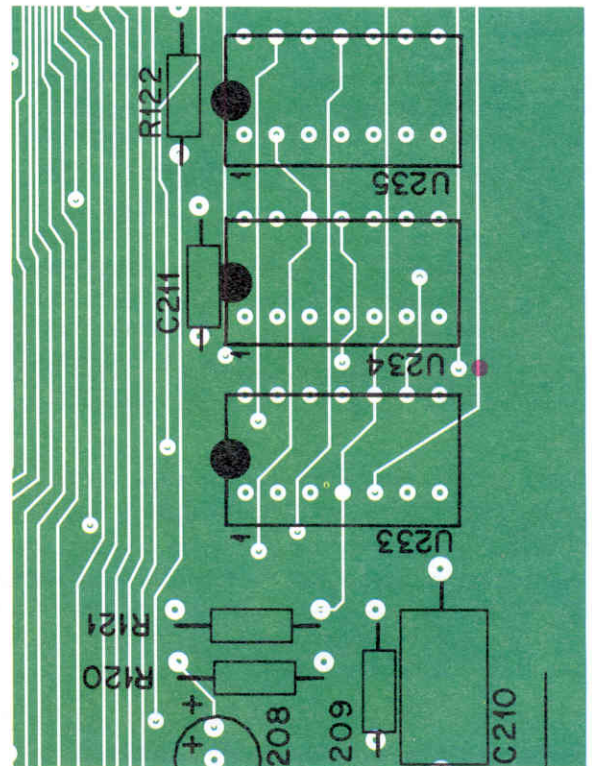

Figure 4. Component side trace cut near U233.
- (V) Position the board with the component side up and the S-100 connectors away from you.
- (V) Cut the trace coming from U233 pin 5. See Figure 4.
- (V) Position the board with the solder side up.
- (V) Jumper U233 pin 1 to U234 pin 1.
- (V) Jumper U233 pin 3 to U234 pin 3.
- (V) Jumper U233 pin 4 to U234 pin 4.
- (V) Jumper U233 pin 5 to U234 pin 2.
- (V) Jumper U234 pin 5 to U226 pin 14. This will be a long jumper, so route it carefully.